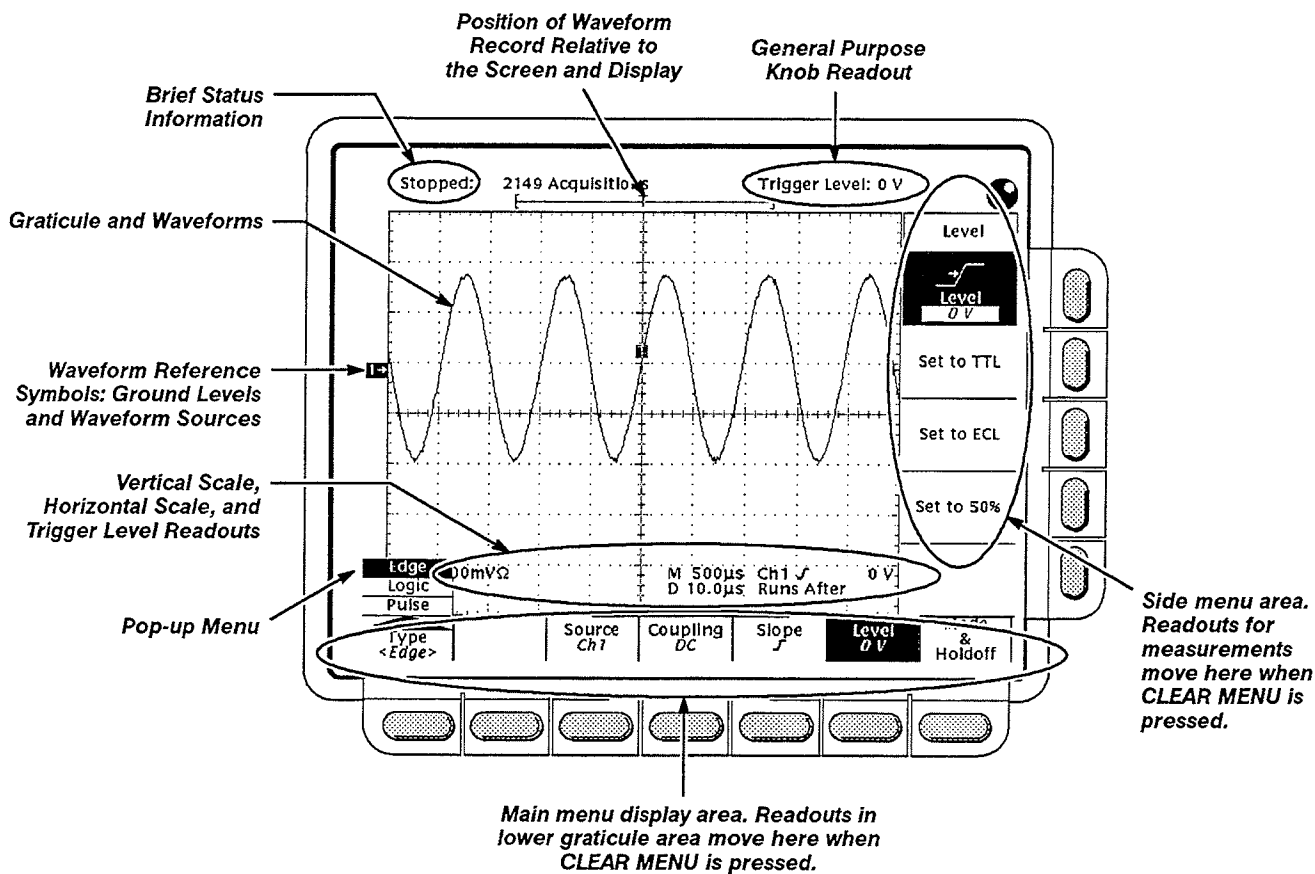

Figure 4-1: Map of Display Functions
- Refer to Figure 4-1: "Main menu" refers to the menu that labels the seven menu buttons under the display; "side menu" refers to the menu that labels the five buttons to the right of the display. "Pop-up menu" refers to a menu that pops up when a main-menu button is pressed.
- The vertical scale readout for the channel under test shows a setting of 200 mV, and a square-wave probe-compensation signal about 2.5 divisions in amplitude is on-screen. (See Figure 4-1 on page 4-3 to locate the readout.)